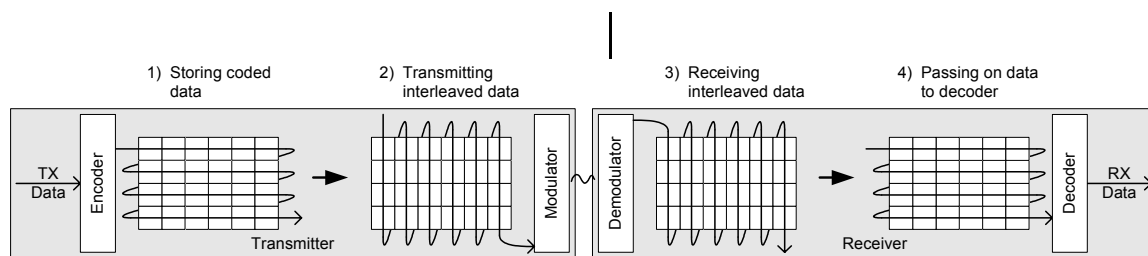

Figure 49: General principle of matrix interleaving
*CC2510Fx/CC2511Fx* employs matrix interleaving, which is illustrated in Figure 49. The on-chip interleaving and de-interleaving buffers are 4 x 4 matrices. In the transmitter, the data bits are written into the rows of the matrix, whereas the bit sequence to be transmitted is read from the columns of the matrix and fed to the rate 1/2 convolutional coder. Conversely, in the receiver, the received symbols are written into the columns of the matrix, whereas the data passed onto the convolutional decoder is read from the rows of the matrix.